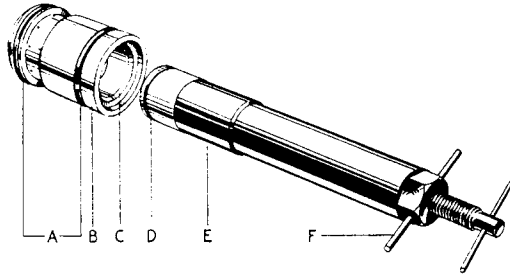

Fig. 13 Piston Housing and Extractor, Churchill Tool No. L 182.
The accumulator piston is fitted into the housing at the works with a special venturi tube, which ensures that the piston rings do not scrape the surface as they enter the aluminium housing. Replacement pistons are supplied already assembled in the housing. The piston should not be taken from the housing, but should this happen inadvertently do not put the piston back by pushing it into the rear end of the housing which has a conical recess (C) (Fig. 13), as this may result in the piston rings scraping the aluminium as they enter the housing. Instead, put the piston back from the front end of the housing, using a small piston ring clamp to compress the rings as the piston enters. A special venturi tube is now supplied by V. L. Churchill under Tool No. L 179.